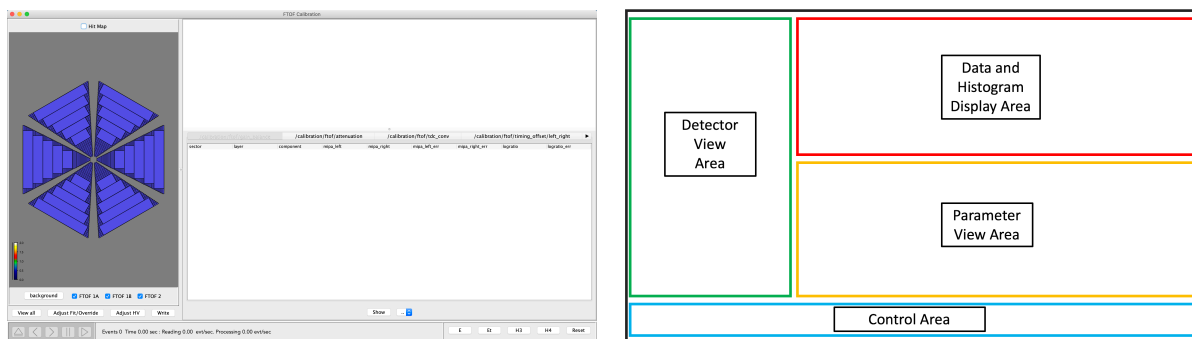
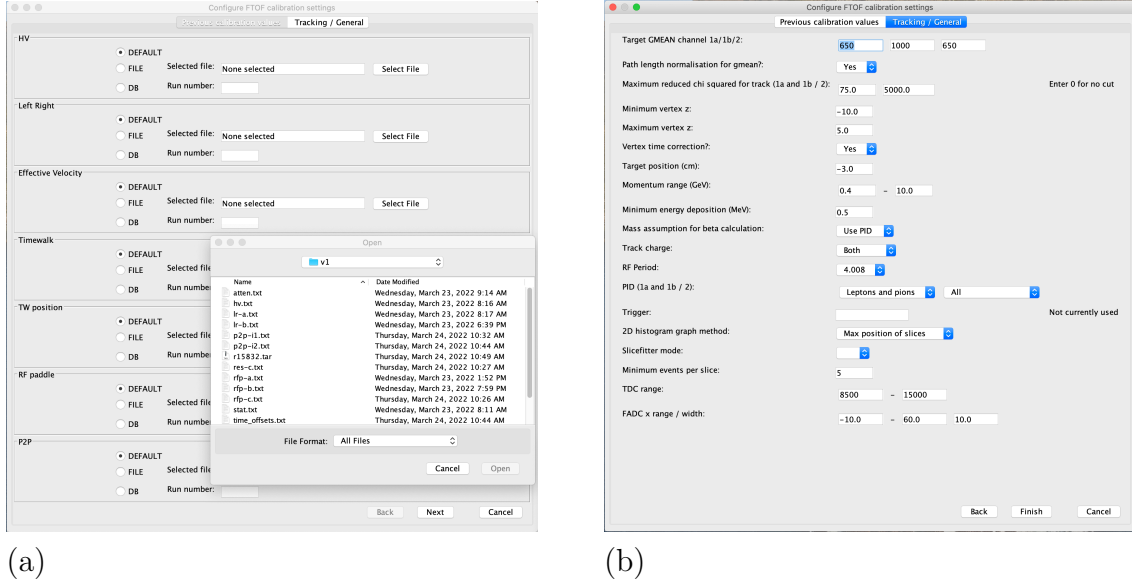

Figure 1: FTOF calibration suite main GUI interface screen highlighting the different suite areas.
Figure 2: FTOF calibration suite startup screens: (a) Input calibration parameter file selection, (b). Startup configuration selection.
The main graphical user interface (GUI) for the FTOF calibration suite is shown in Fig. 1. On the left of this figure is the main GUI screen and on the right is a representation of the same screen denoting its four primary areas. On the left side of the GUI (green box) is the “Detector View Area” used to select the FTOF sector and panel. On the upper right (red box) is the “Data and Histogram Display Area”. On the lower right (gold box) is the “Parameter View Area”. Finally, along the bottom (blue box) is the “Control Area”. The usage and controls within these different areas are explained below.
Upon entering this command a screen with two pages will pop-up onto your desktop that requires completion. These screens are shown in Fig. 2.
- The first screen to come up is Fig. 2(a) where the input parameters for a given calibration step are selected. By clicking on the “Select File” button for a given parameter, a selection window pops up as shown. As an alternative, calibration parameters from the calibration constant database (ccdB) can be selected by entering a run number in the box for the specific constants. Click on the “Next” button to proceed.
- The second screen to come up is Fig. 2(b) where various event selection options are available. For meaningful energy and timing calibrations, these selections must be properly made. Appendix A provides more details on this screen. Click on the “Finish” button to bring up the main FTOF GUI screen shown in Fig. 1(left).
The gain balance step does not rely on any previous calibration parameters to complete. The first option on the parameter screen in Fig. 2(right) is to turn on the path length correction to the geometric mean distribution. This correction is employed for beam data where there is DC track information. Choose “No” for this option for cosmic ray data where no DC information is available.